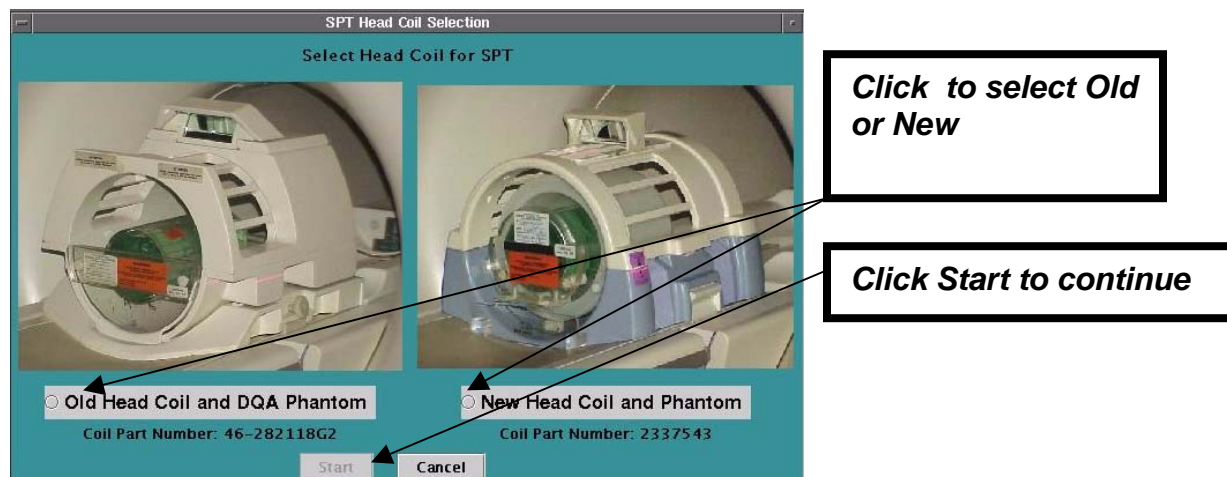

Figure 15
3. A window will open requesting the Engineer to select the Head Coil and Phantom type. Select the appropriate combination by clicking on the radio button. Then click on the Start button. **Figure 15**